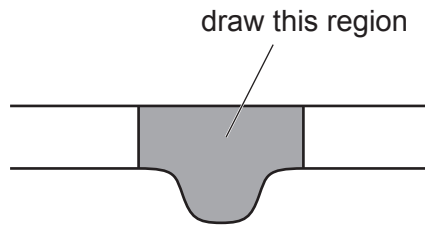

Fig. 2.1
- (a) (i) Draw a large plan diagram of the region of the leaf on **J1** indicated by the shaded area in Fig. 2.1.